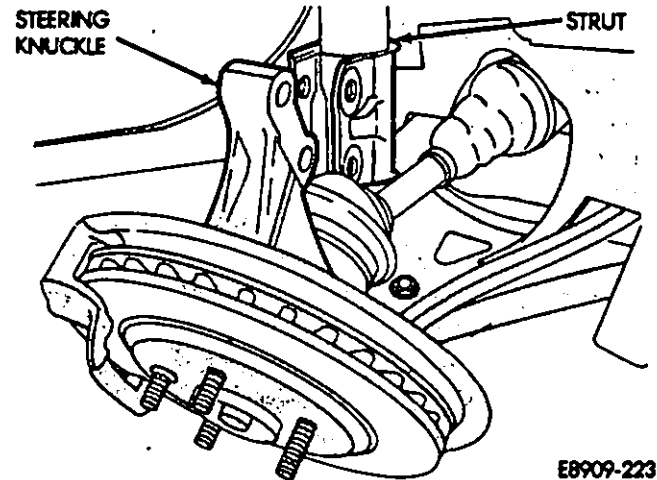

Fig. 17—Steering Knuckle/Strut
(51) On both sides of the vehicle tap the top steering knuckle bolt out first. Pull the strut out, pivoting the steering knuckle on the lower bolt.
(52) Tap the lower steering knuckle bolt out and separate the steering knuckle from the strut (Fig. 17).
(53) Raise the vehicle all the way up.
(54) Disconnect the battery negative cable and solenoid wire at the starter.
(55) Remove the middle starter mounting bolt and disconnect the ground cable.